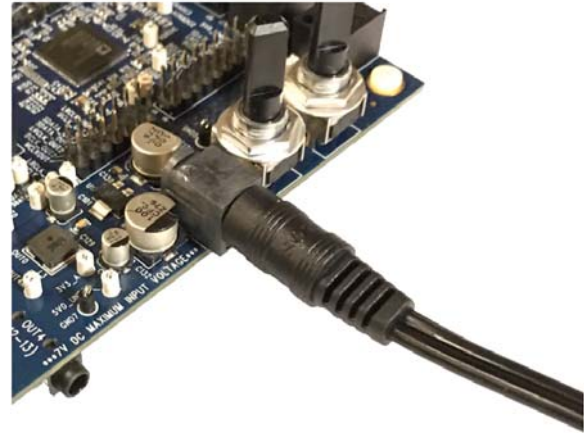

Figure 10. Connecting the Power Supply
2. Connect the female plug of the power supply to the J4 male connector on the EVAL-ADAU1467Z, as shown in Figure 10.